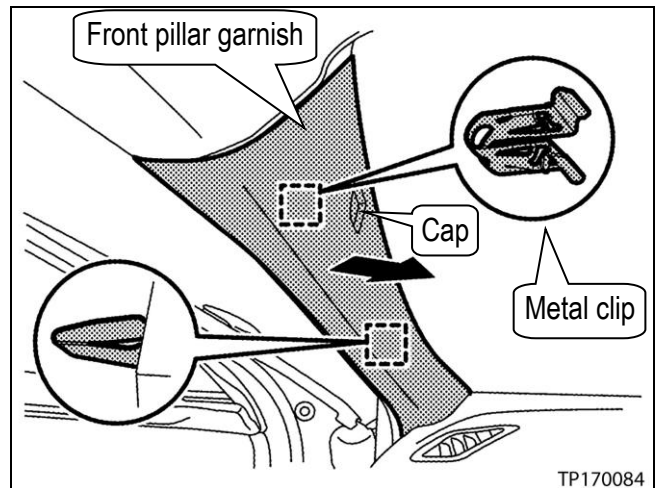

Figure 11
- See Figure 11 for cap location.
- See Figure 11 and 13.